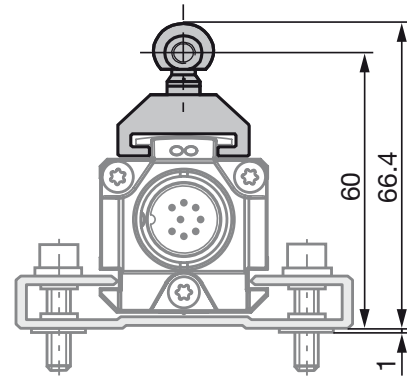
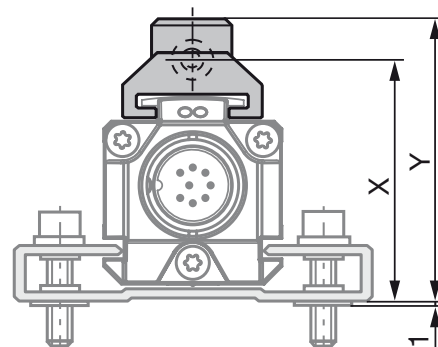
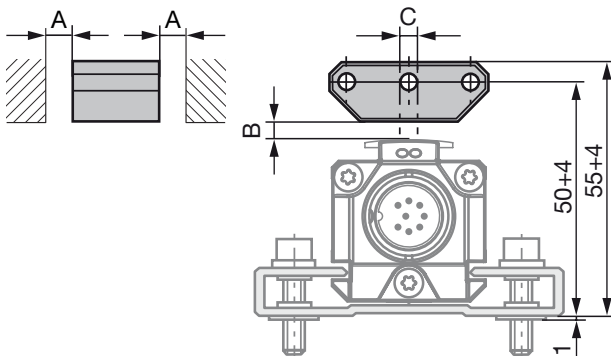
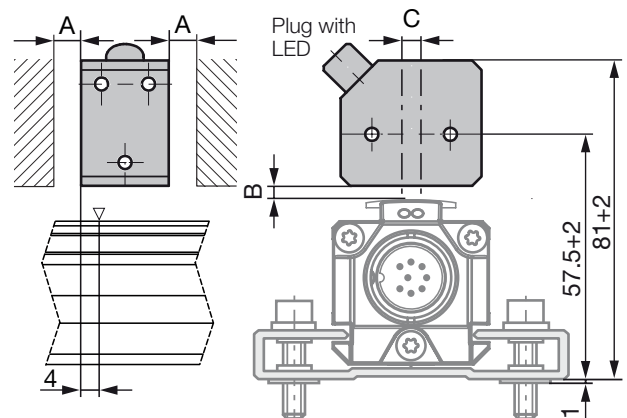

Fig. 4-1: Dimensions and distances with BTL5-F-2814-1S magnet
Fig. 4-3: Dimensions and distances with BTL5-M/N-2814-1S magnet
Fig. 4-4: Dimensions and distances with BTL5-P-3800-2 magnet
Fig. 4-8: Dimensions and distances with BTL5-P-4500-1 electromagnet (24 V/100 mA)
- i** The micropulse transducer in profile housing is suitable both for floating, i.e. non-contacting magnets (see Fig. 4-4 to Fig. 4-8) and for captive magnets (see Fig. 4-1 to Fig. 4-3).
- Ensure that the distance A between parts made of magnetizable material and the magnet is at least 10 mm (see Fig. 4-4 to Fig. 4-8).
- Maintain the following values for distance B between the magnet and transducer and for center offset C (see Fig. 4-4 to Fig. 4-8):
The measuring range is offset by 4 mm towards the transducer plug (see Fig. 4-8).